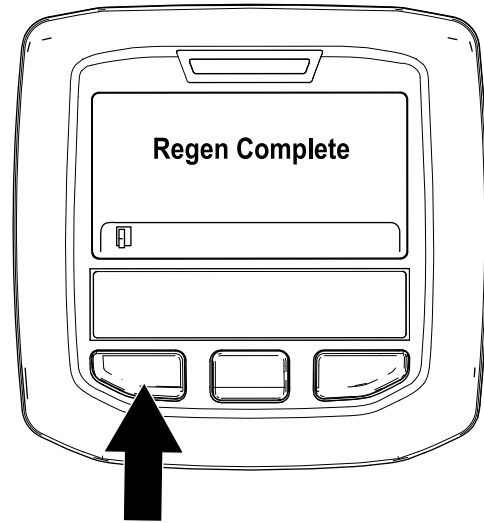

Figure 53
9. The parked regeneration is complete when the “Regen Complete” message displays in the InfoCenter. Press the left button to exit to the home screen (Figure 53).